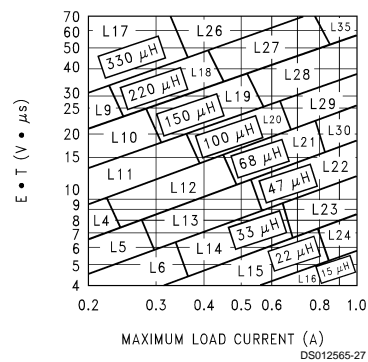

FIGURE 7. LM2595-ADJ
<p>2. Inductor Selection (L1)</p> <p>A. Calculate the inductor Volt • microsecond constant E • T (V • μs), from the following formula:</p> $E \cdot T = (V_{IN} - V_{OUT} - V_{SAT}) \cdot \frac{V_{OUT} + V_D}{V_{IN} - V_{SAT} + V_D} \cdot \frac{1000}{150 \text{ kHz}} (V \cdot \mu\text{s})$ <p>where <math>V_{SAT}</math> = internal switch saturation voltage = 1V and <math>V_D</math> = diode forward voltage drop = 0.5V</p> <p>B. Use the E • T value from the previous formula and match it with the E • T number on the vertical axis of the Inductor Value Selection Guide shown in Figure 7.</p> <p>C. on the horizontal axis, select the maximum load current.</p> <p>D. Identify the inductance region intersected by the E • T value and the Maximum Load Current value. Each region is identified by an inductance value and an inductor code (LXX).</p> <p>E. Select an appropriate inductor from the four manufacturer's part numbers listed in Figure 8.</p> <p>3. Output Capacitor Selection (COUT)</p> <p>A. In the majority of applications, low ESR electrolytic or solid tantalum capacitors between 47 μF and 330 μF provide the best results. This capacitor should be located close to the IC using short capacitor leads and short copper traces. Do not use capacitors larger than 330 μF. For additional information, see section on output capacitors in application information section.</p> <p>B. To simplify the capacitor selection procedure, refer to the quick design table shown in Figure 3. This table contains different output voltages, and lists various output capacitors that will provide the best design solutions.</p> <p>C. The capacitor voltage rating should be at least 1.5 times greater than the output voltage, and often much higher voltage ratings are needed to satisfy the low ESR requirements needed for low output ripple voltage.</p> <p>4. Feedforward Capacitor (CFF) (See Figure 1)</p> <p>For output voltages greater than approximately 10V, an additional capacitor is required. The compensation capacitor is typically between 50 pF and 10 nF, and is wired in parallel with the output voltage setting resistor, R2. It provides additional stability for high output voltages, low input-output voltages, and/or very low ESR output capacitors, such as solid tantalum capacitors.</p> $C_{FF} = \frac{1}{31 \times 10^3 \times R_2}$ <p>This capacitor type can be ceramic, plastic, silver mica, etc. (Because of the unstable characteristics of ceramic capacitors made with Z5U material, they are not recommended.)</p>	<p>2. Inductor Selection (L1)</p> <p>A. Calculate the inductor Volt • microsecond constant (E • T),</p> $E \cdot T = (28 - 20 - 1) \cdot \frac{20 + 0.5}{28 - 1 + 0.5} \cdot \frac{1000}{150} (V \cdot \mu\text{s})$ $E \cdot T = (7) \cdot \frac{20.5}{27.5} \cdot 6.67 (V \cdot \mu\text{s}) = 34.8 (V \cdot \mu\text{s})$ <p>B. E • T = 34.8 (V • μs)</p> <p>C. ILOAD(max) = 1A</p> <p>D. From the inductor value selection guide shown in Figure 7, the inductance region intersected by the 35 (V • μs) horizontal line and the 1A vertical line is 100 μH, and the inductor code is L29.</p> <p>E. From the table in Figure 8, locate line L29, and select an inductor part number from the list of manufacturers part numbers.</p> <p>3. Output Capacitor Selection (COUT)</p> <p>A. See section on COUT in Application Information section.</p> <p>B. From the quick design table shown in Figure 3, locate the output voltage column. From that column, locate the output voltage closest to the output voltage in your application. In this example, select the 24V line. Under the output capacitor section, select a capacitor from the list of through hole electrolytic or surface mount tantalum types from four different capacitor manufacturers. It is recommended that both the manufacturers and the manufacturers series that are listed in the table be used.</p> <p>In this example, through hole aluminum electrolytic capacitors from several different manufacturers are available.</p> <p>82 μF, 35V Panasonic HFQ Series 82 μF, 35V Nichicon PL Series</p> <p>C. For a 20V output, a capacitor rating of at least 30V or more is needed. In this example, either a 35V or 50V capacitor would work. A 35V rating was chosen, although a 50V rating could also be used if a lower output ripple voltage is needed.</p> <p>Other manufacturers or other types of capacitors may also be used, provided the capacitor specifications (especially the 100 kHz ESR) closely match the types listed in the table. Refer to the capacitor manufacturers data sheet for this information.</p> <p>4. Feedforward Capacitor (CFF)</p> <p>The table shown in Figure 3 contains feed forward capacitor values for various output voltages. In this example, a 1 nF capacitor is needed.</p>